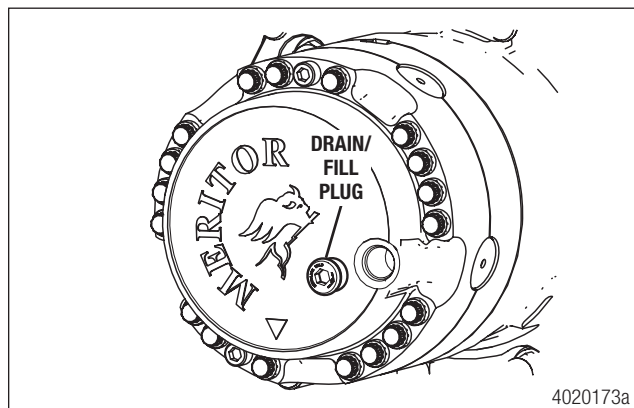

Figure 19
- j. Remove the drain/fill plug. Add 75W-90 full-synthetic oil to the wheel end until the level reaches the bottom of the plug hole, approximately 1.06 quarts (1 liter). Install the drain/fill plug and tighten to 26±3 lb-ft (35±4 Nm). Figure 19.